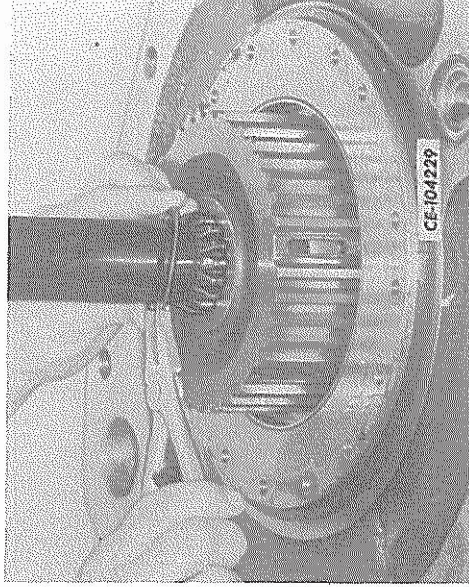
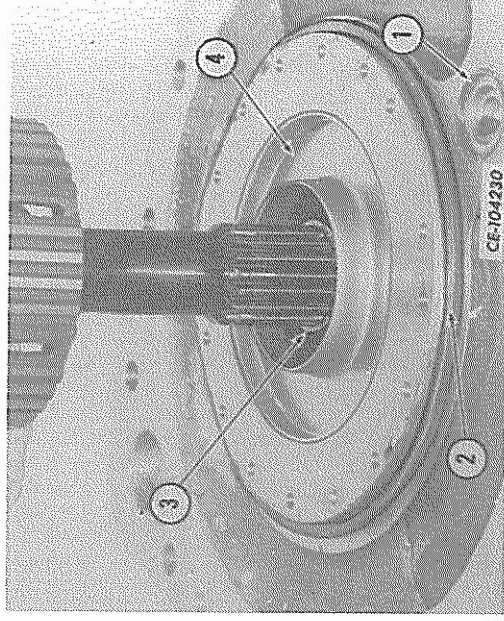

FIG. 62 — Removing the Brake Outer Retaining Ring
FIG. 63 — Removing the Brake Hub
6. Remove the brake hub outer retaining ring from the pinion shaft (Fig. 62). Slide the hub from the shaft (Fig. 63). Discard the sealing ring (2, Fig. 63) (if equipped) and the "O" ring (1).
1. Position the brake hub on the pinion shaft splines until it bottoms on the inner retaining ring (3, Fig. 63). Secure with the outer retaining ring (Fig. 62).
NOTE: To prevent damaging the oil dam (4, Fig. 63) be sure to install the brake hub with the open end toward the oil dam.
1. Apply Permatex No. 3 on the sealing rings (1 and 2, Fig. 63) and install the sealing rings in the rear of the carrier.
NOTE: On machines that do not have a counterbore in the rear main frame, the sealing ring (2, Fig. 63) is not used.